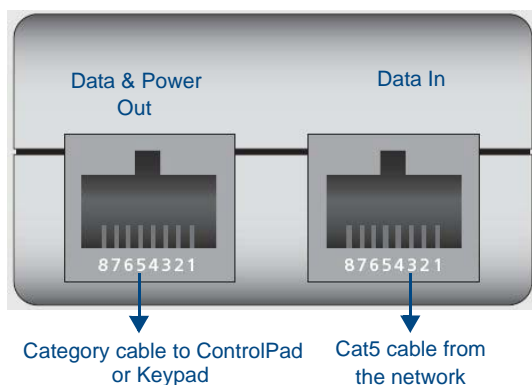

FIG. 12 Connecting to a PoE Injector
2. Connect the switch category cable to the Data In port on the PoE injector (FIG. 12).